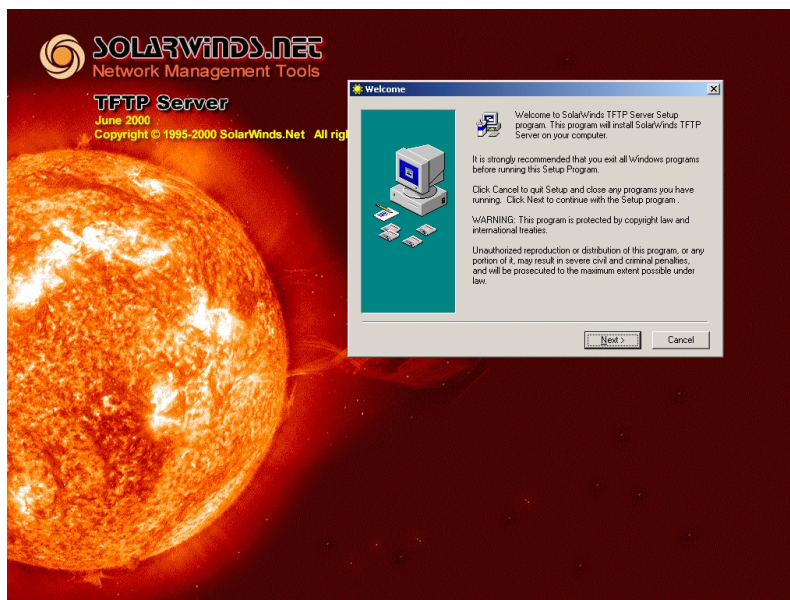

Figure B-2.9
9. Select **Finish** to start the installation. The installation Wizard displays (see figure B-2.9).